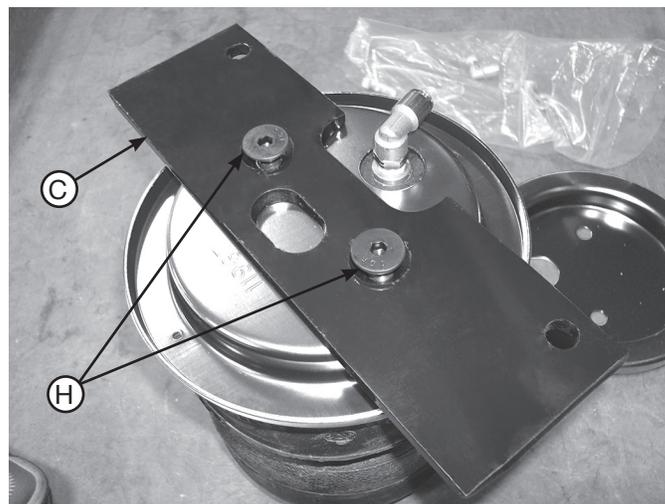

fig. 9
3. Set the air spring bracket (C) over the air spring and roll plate and attach with the 3/8"-24 x 7/8" flat-head screws (H) (Fig. 9). Torque to no more than 20 lb.-ft. (27Nm). Repeat for the other air spring.